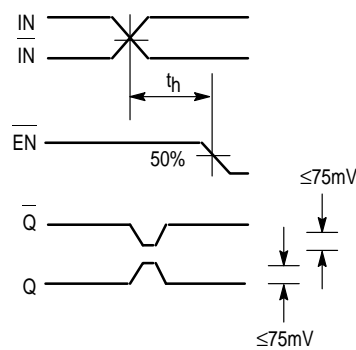

Figure 2. Hold Time
6. The hold time is the minimum time that EN must remain asserted after a negative going IN or a positive going IN to prevent an output response greater than ± 75 mV to that IN/IN transition (see Figure 2).